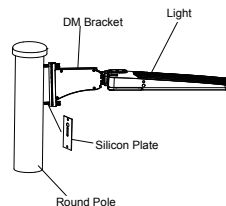

Figure 16
- Notice: Adjustable angle range is 0-35°(Figure 16)
Same as round pole installation, please remember to remove the silicon plate when install the fixture in round pole (Figure 16)